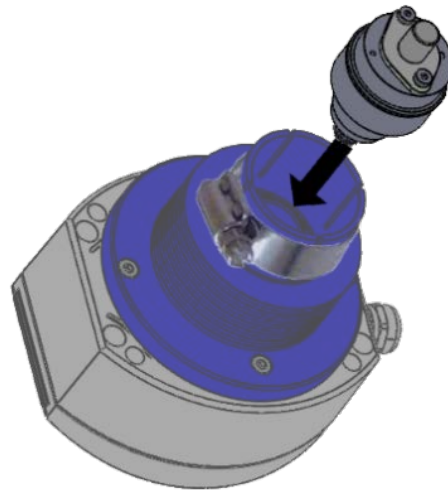

Figure 9 *Insert Sensing Module*
3. Fit sensing module to the sensor head and gently push to secure the module in place; refer to Figure 9. The connector is keyed to aid alignment.